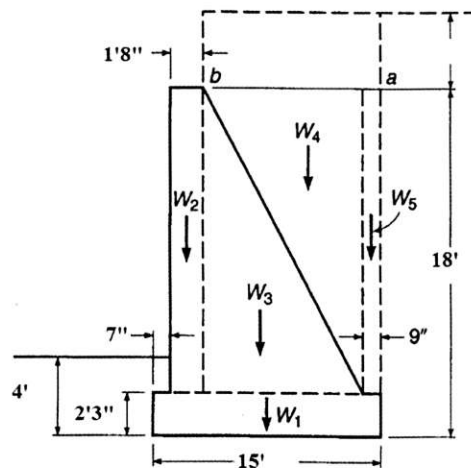

Figure: 3
8. A gravity wall is to retain a bank 11.5ft high whose horizontal surface is subject to a live load surcharge of 650psf. The soil is a mixture of soft clay with silt and the allowable bearing capacity is 7500psf. Determine whether the retaining wall designed below is safe against overturning and sliding. (Figure 3)